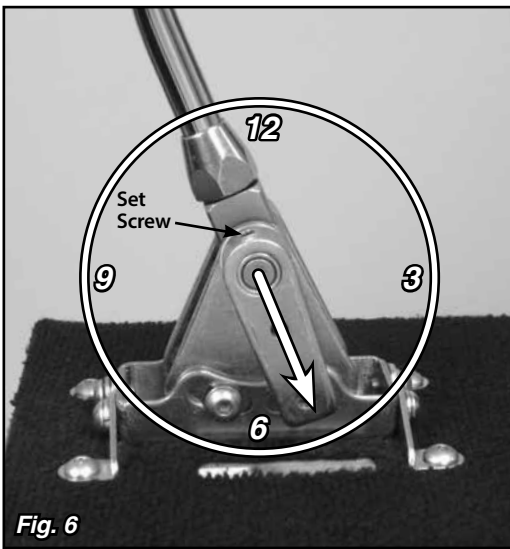

Fig. 6
Step 5: Make sure the shifter is in the Park position. Check the position of the quad lever. It should be pointing to about the 4:30 - 5:00 position. If it is not, loosen the set screw in the top of the quad lever with a 1/8" Allen wrench and slide the quad lever off of the shaft. Reposition it on the shaft at approximately the 4:30 - 5:00 position, and retighten the set screw. **Fig. 6** Make sure that the quad arm will not hit the river side rear floor mount tab when the shifter is in Park.